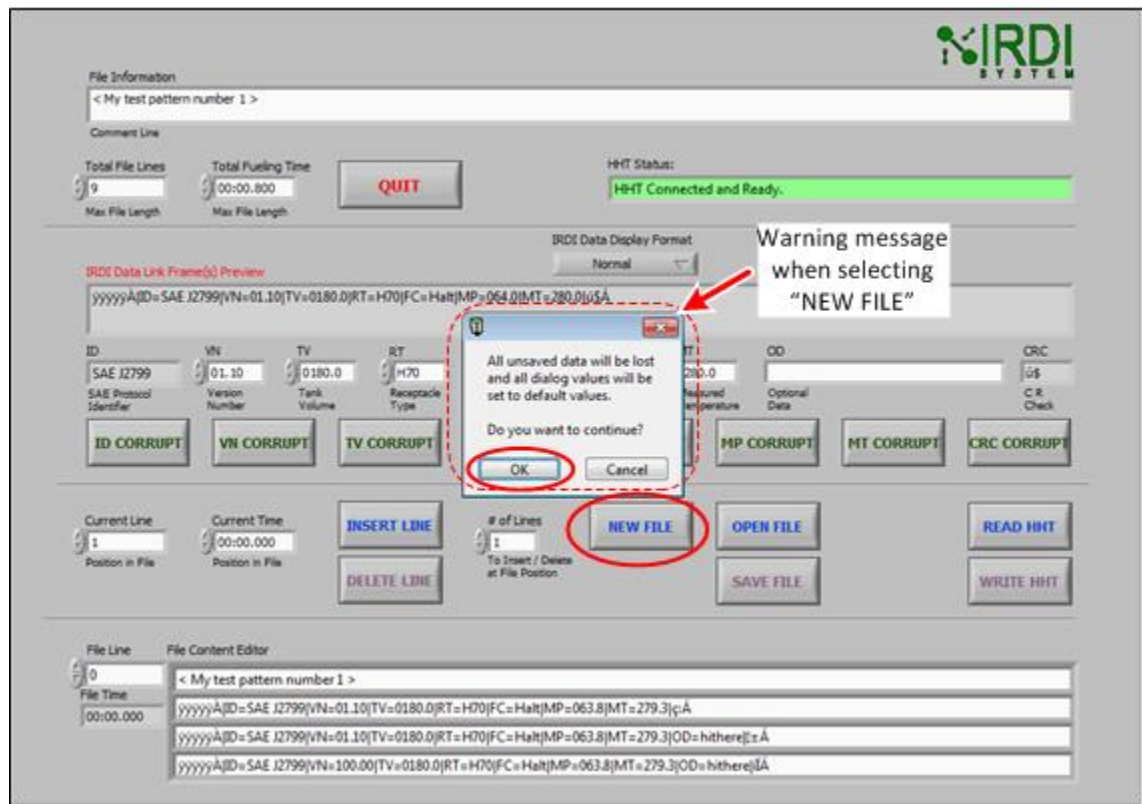

FIGURE 5-10 HHT TEST PATTERN SOFTWARE - NEW FILE WARNING
STEP 2	A warning message will appear as shown in Figure 5-10 – click “OK” in the popup window, to continue.